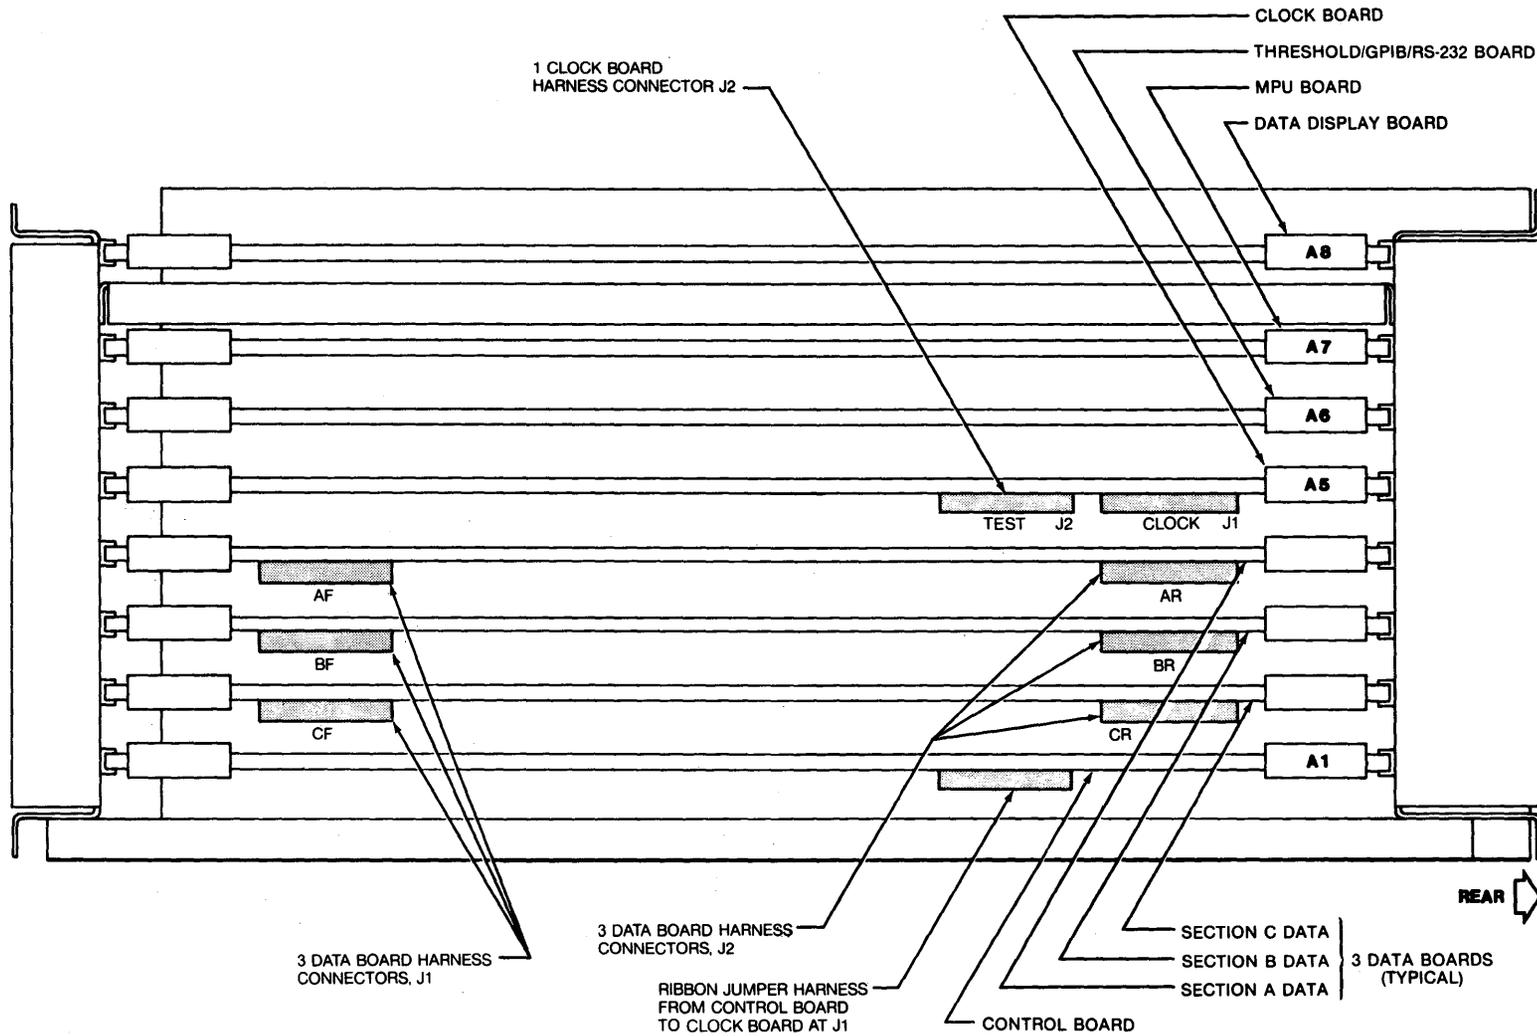

Figure 6-1. K205 Card Cage Arrangement, Top View
The K205 card cage arrangement is shown in Figure 6-1. The board ejector tabs on each printed circuit board are numbered to correspond to the assigned slot location in the card cage. For the most part, the assigned board is dedicated to reside in its assigned slot location except where specified below for the three Data Boards. The installed boards are secured in the card cage by a slotted retainer bar, which is fastened to the top of the card cage by two screws.
4. Position the Option C Data Board with the solder side toward the power supply of the unit. Carefully insert the Data Board into the card slot A2 designated for SECTION C DATA (refer to Figure 6-1). Ensure the Data Board is seated firmly in the motherboard sockets.